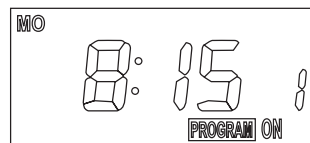

Figure 4
6. Press the SET key to end the setting of Program 1. The display will be shown as in Figure 4.